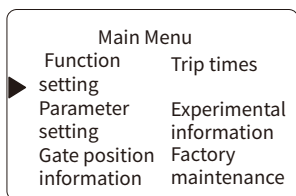
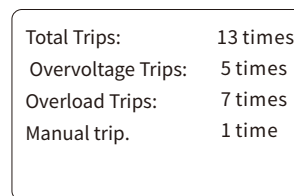

Figure 10
Figure 12
- 2) **[Menu]** : It can be used to enter the menu and set the cursor in the setting and password input status. As shown in Fig. 10. After entering the menu, press [Shift] and [Incremental] to check the latest gate information. As shown in Fig. 10-11, phase A current overload tripped, the maximum current value at the time of tripping is 425 A, and the time of tripping is 12/08/2020 at 18:16:20. Enter the menu and select Trip Count to enter the Trip Count Inquiry status. The trip count parameter is displayed. As shown in Fig. 12, there are 13 trips, 5 overvoltage trips, 7 overload trips and 1 manual trip.